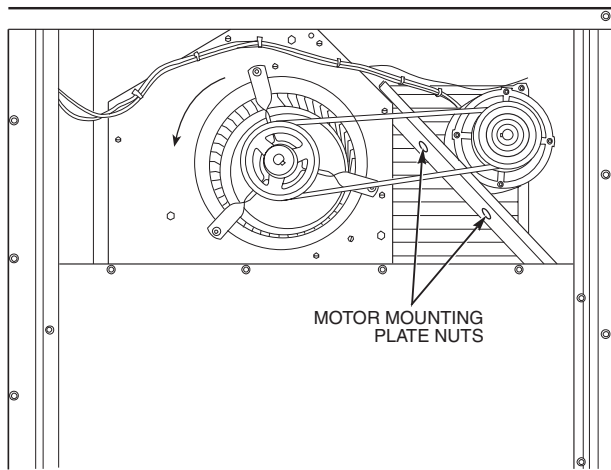

Fig. 38 — Typical Belt-Drive Motor Mounting for Size 008 and 009
2. Loosen the belt by loosening the fan motor mounting nuts. See Fig. 38 and 39.
2. *Sizes 008 and 009* — Slide the motor mounting plate away from the fan scroll for proper belt tension ($\frac{1}{2}$ -in. deflection with 5 to 10 lb of force) and tighten the mounting nuts (see Fig. 38).